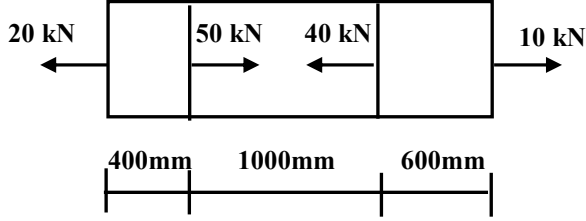

Figure-1 Q-1 (b)
- (b)** A steel bar ABCD is loaded axially as shown in **figure-1**. Find the deformation of the bar having 200 mm^2 cross sectional area. **08**